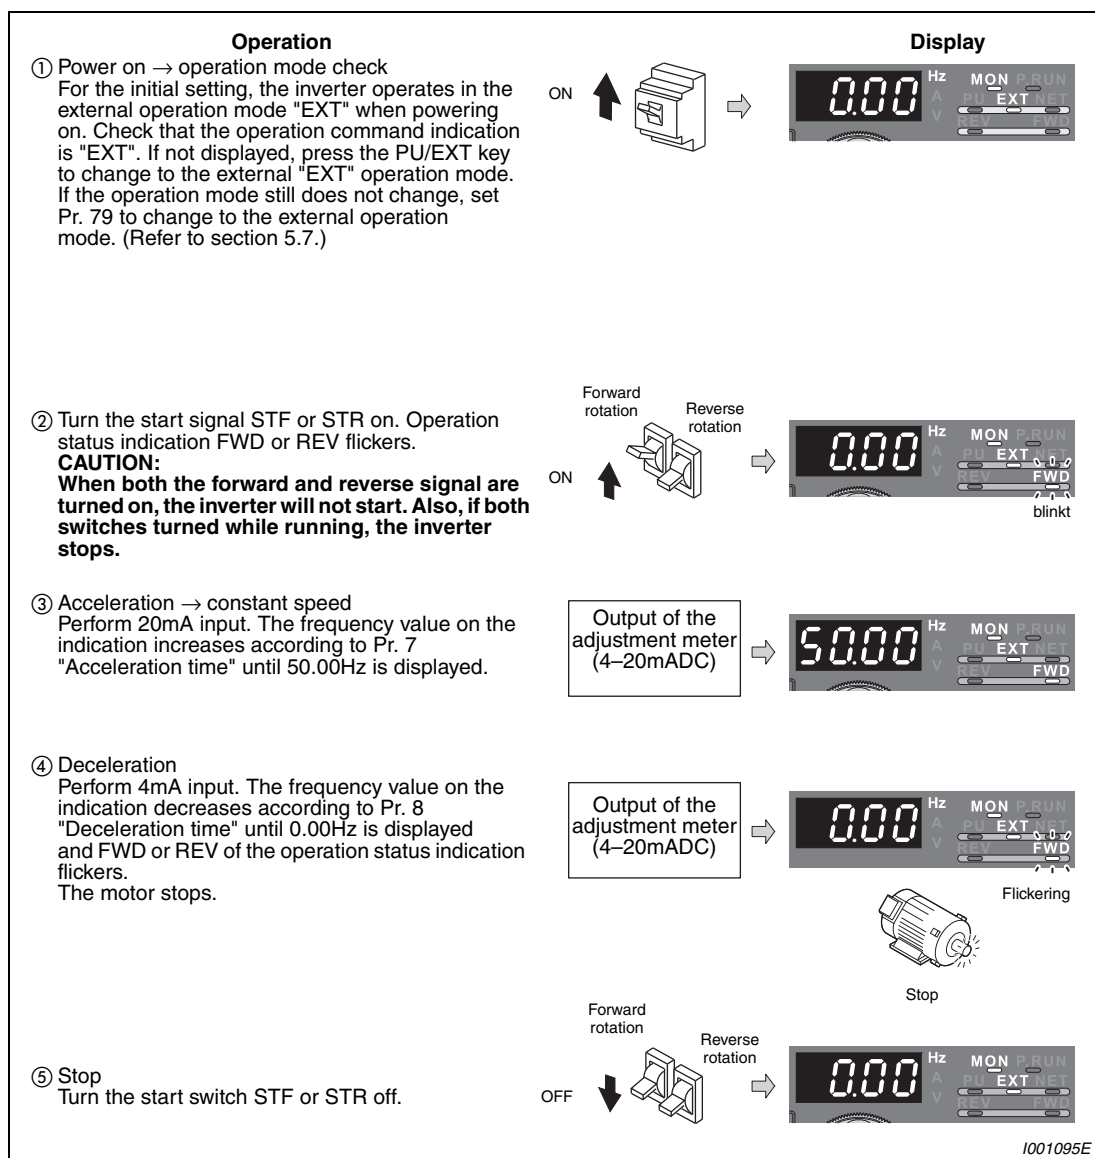

Fig. 4-28: Operate the inverter by using the analog current input
(Refer to Fig. 4-28, step ② to ⑤.)